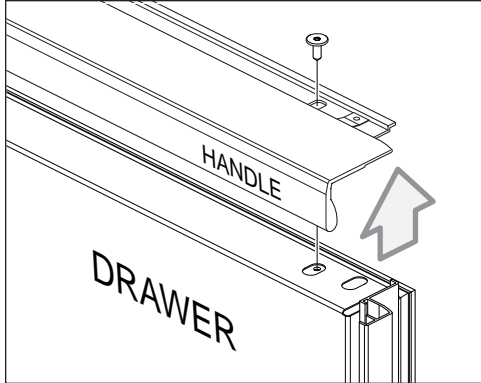

Figure 2-18A. Handle Removal
2. With a T-20, 6-lobe Torx type bit, extract the handle or handle-side trim mounting screws and pull the handle or trim from the drawer (See Figures 2-18A and 2-18B).